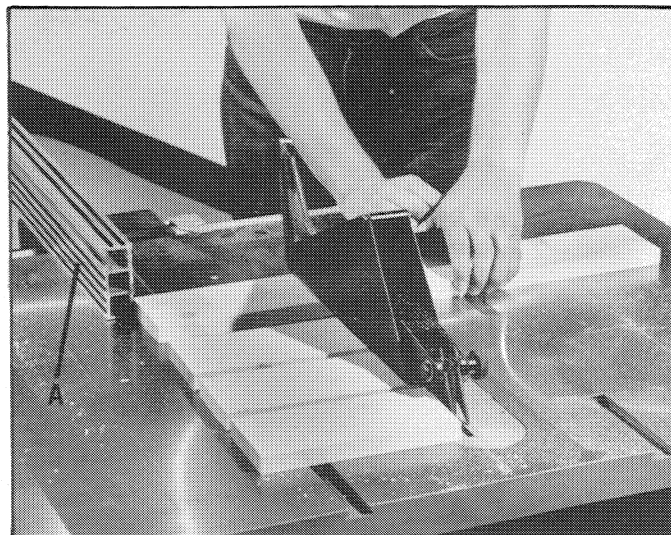

Fig. 42
The rip fence (A) can also be used as a cut-off gage when cross-cutting a number of pieces to the same length, as shown in Fig. 42. **WHEN USING THE FENCE AS A CUT OFF GAGE, AS SHOWN IN FIG. 42, IT IS VERY IMPORTANT THAT THE FENCE (A) FIG. 42, BE POSITIONED IN FRONT OF THE SAW BLADE, AS SHOWN.**